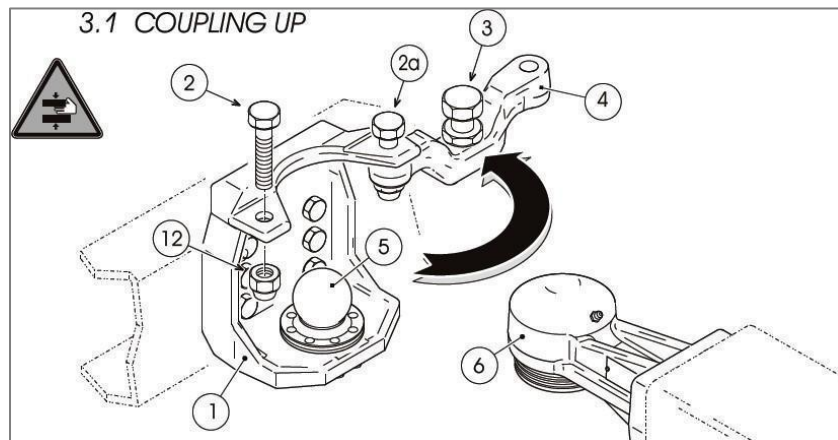

Figure 6.12
USE FIGURE 6.12 TO FOLLOW THE STEPS 1-4:
- Remove **safety lock screw (2 in Figure 6.12)**, recover and keep its **self-locking nut (12 in Figure 6.12)** aside then also loosen **safety lock screw (2a in Figure 6.12)** and turn out the **adjustment screw (3 in Figure 6.12)** by at least five turns.
- Rotate the **safety cover bar (4 in Figure 6.12)** outwards so that it is completely open.
- Reverse truck very slowly until the **ball cup drawbar eye (6 in Figure 6.12)** is in position exactly above the **drawbar coupling ball (5 in Figure 6.12)**.
- Lower the drawbeam until the **ball cup drawbar eye (6 in Figure 6.12)** lies completely covering the **drawbar coupling ball (5 in Figure 6.12)**.
- Rotate the **safety cover bar (4 in Figure 6.12)** back inwards and fit in **safety lock screw (2 in Figure 6.12)** together with its **self-locking nut (12 in Figure 6.12)**.
- Tighten in both the **lock screws (2,2a in Figure 6.12)** together with their **self-locking nuts (12, 12a in Figure 6.12)** at a 350 to 400 Nm torque wrench setting.
The **safety cover bar (4 in Figure 6.12)** must perfectly lodge into its seating appropriately or you are not allowed to drive the combination vehicle.
- Loosen **safety lock screw (2a in Figure 6.12)** and remove **safety lock screw (2 in Figure 6.12)** together with its **self-locking nut (12 in Figure 6.12)**.
- Lift the trailer drawbeam until the **drawbar coupling ball (5 in Figure 6.12)** is fully visible. Move forward with the trailer very slowly.
- Rotate the **safety cover bar (4 in Figure 6.12)** inwards until it lodges back in its housing.
- Fit in **safety lock screw (2 in Figure 6.12)** and tighten in **self-locking nut (12 in Figure 6.12)**.